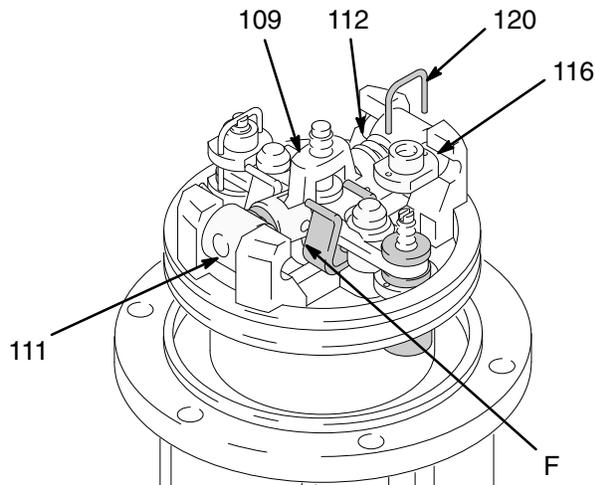

Fig. 2
To reduce the risk of pinching or amputating your fingers, always keep fingers clear of the toggle assemblies (F). See Fig. 2.
6. Use a screwdriver to push down on the trip rod yoke (109) and snap the toggles down. Remove the lockwires (120†) from the adjusting nuts (116†) of the transfer valves. Screw the top nuts off. Screw the stems (115†) out of the grommets (113†) and bottom nuts. Take the valve poppets (114†) off the stems and squeeze them firmly to check for cracks.
7. Grip the pivot pins (111) with a pliers. See Fig. 2. Compress the springs (112) up away from the piston lugs, and remove the parts. Check that the valve actuator (121) is supported by the spring clips (119), but slides easily into them. Remove the trip rod yoke, actuator, and trip rod (103) check the exhaust valve poppets (122†) for cracks.